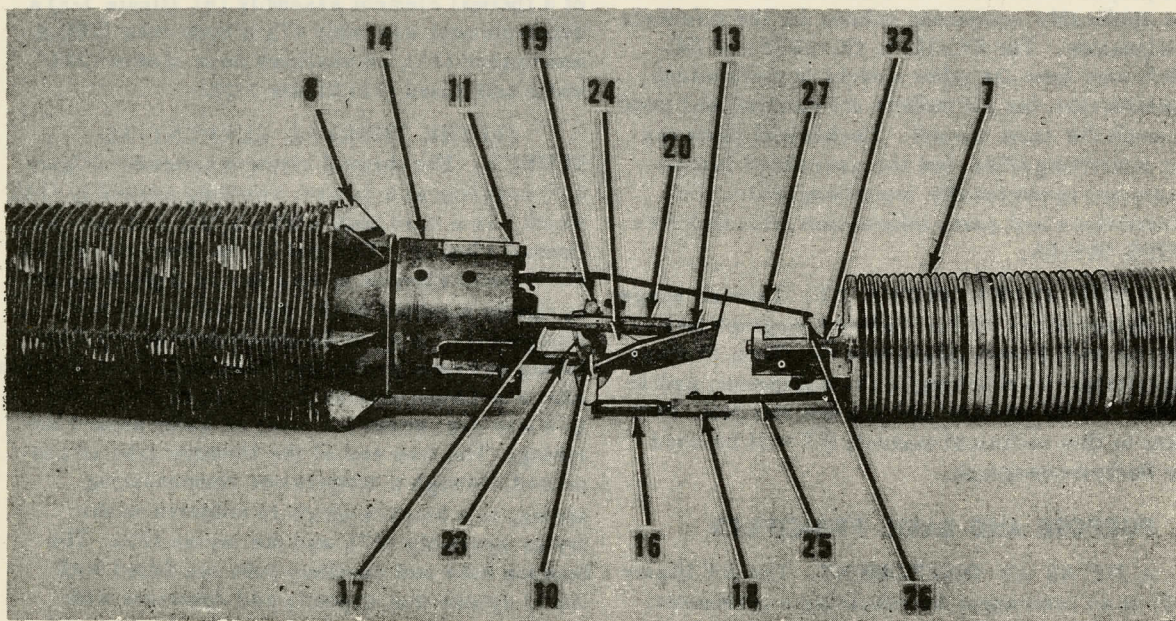
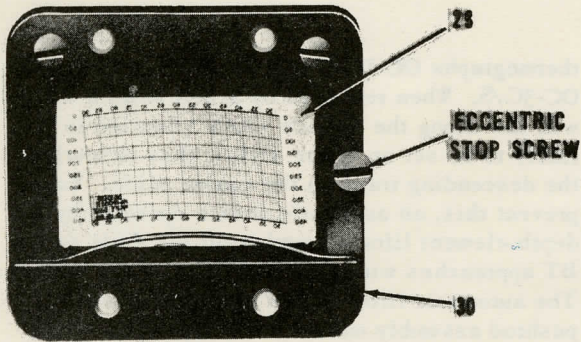

Figure 1-3. Depth Element and Thermal Element, Bathythermograph OC-1C/S and OC-3C/S
Figure 1-4. Grid and Slide Holder
b. HOW THE BT WORKS. In general, the BT consists of a thermal element attached to a stylus (figure 1-3) which describes a trace across a coated glass slide. A depth (pressure) element moves the slide perpendicular to the motion of the stylus. Thus, the position of any point on the resulting trace on the slide represents the temperature at a given depth. Using a magnifying grid viewer, the trace or record scribed by the stylus is read by comparing with a grid, (figure 1-4) individually calibrated for each instrument. If a smoked slide (32) is used, the slide must be preserved by dipping in lacquer, properly draining, drying and storing.
a. BATHYTHERMOGRAPH. The BT consists of a thermal element assembly (8), (figure 1-3) a depth-element assembly (7), a body tube (28), a nose piece (15), an auxiliary nose sleeve (22), and a tail guard (12) (figure 1-2).
(1) THE THERMAL ELEMENT ASSEMBLY. The thermal element assembly (figure 1-3) consists of a system mounting assembly (14), which has a cast body with six tail fins, and the thermal element. One end of the Bourdon tube of the thermal element is attached to a shaft which is rigidly mounted in the body recess by two clamps (11). A 45 to 50 foot length of capillary tubing is connected to the fixed end of the Bourdon tube and wound around the hexangular tail fins in a way that insures a store of water around the tubing. The free end of the Bourdon tube is connected, through a temperature compensating spring, to a bracket which is soldered to the stylus assembly (27), and the stylus (26). The bourdon tube and capillary tube are filled with liquid xylene that expands and contracts with temperature changes which causes the free end
(2) THE DEPTH ELEMENT ASSEMBLY. The depth-element assembly (7) (figure 1-3) is located inside the body tube assembly, and it consists of a spring loaded piston enclosed in a flexible envelope made of three brass bellows soldered together. The tail end of the bellows is soldered to one side of the piston head; the other side of the piston head is the slide holder. The nose end of the bellows is soldered to a base that is fastened to the body tube by six screws.
(3) THE BODY TUBE ASSEMBLY. The body-tube assembly (28) (figure 1-2) serves as a main support for the unit, and protects the internal mechanism. A moveable brass sleeve (21) on the body tube covers four access ports. The sleeve can be pushed easily towards the nose to uncover these ports. The circular port is for inserting a finger to eject the coated slide. The square port adjacent to the circular port is for access to the depth-element stop adjustment screw, while the rectangular port (opposite the circular port) gives access to the slide holder and slide. The slanting, oval port gives access to the stylus lifter (13) (figure 1-3). The sleeve is split and the split terminates in a notch. This notch must engage the head of a stop screw in the body tube in order for the sleeve to slide all the way back against the tail piece and set the automatic stylus lifter.
(4) THE AUTOMATIC STYLUS LIFTER. The automatic stylus lifter is provided on Bathy-
thermographs OC-1C/S and OC-2C/S, but not on OC-3C/S. When retrieved by a fast ship, a BT will tow along the surface where vibration is likely to be set up in the stylus, thus obscuring the descending trace on the coated slide. To prevent this, an automatic device operated by the depth element lifts the stylus off the slide as the BT approaches within 70 to 50 feet of the surface. The automatic lifter (figure 1-3) consists of a pushrod assembly mounted underneath the slide holder of the depth element assembly and a stylus lifter assembly and catch mounted on the thermal element assembly. The pushrod assembly consists of a release plunger (16), installed on the threaded end of a release rod (18) that is fastened to a flat release spring (25). The stylus lifter assembly consists of a stylus lifter (13) and stylus lifter shaft (20) supported by two stylus lifter posts (17). The catch (10) mounted on the catch shaft (19) is held against the edge of the stylus lifter by the catch spring (23), and when set, holds the stylus lifter away from contact with the stylus assembly. The release plunger works against the flat arm of the catch. The stylus lifter has a projection or ear which projects through the oval port of the body tube. When the sleeve (21) (figure 1-2) is moved all the way toward the tailguard, the ear is pushed in and the catch engages the stylus lifter to hold it from contact with the stylus assembly.
(5) THE BRASS NOSE PIECE ASSEMBLY. The brass nose piece assembly (15) that is attached to the forward end of the body tube acts as a weight which causes the BT to dive nose first when lowered. The towing cable is attached to a screw pin shackle (4) and swivel (6) which are secured to the instrument by a threaded towing stud (5). The model and serial number of the BT is stamped on the nose piece. This number is covered when the auxiliary nose sleeve (22) is in place.
d. THE GRID AND SLIDE HOLDER. A grid (29) (figure 1-4), is calibrated and furnished for each Bathythermograph. The serial number of the grid and the BT must correspond. The grid is cemented in a slide holder (30) and a locating
The automatic stylus lifter is not provided, so the parts required for it are omitted from the thermal element assembly and the depth element assembly. In the depth element assembly (7) (figure 1-3), the spring is placed outside the bellows. This design is used because a small diameter bellows is required to withstand the greater pressure at a depth of 900 feet.